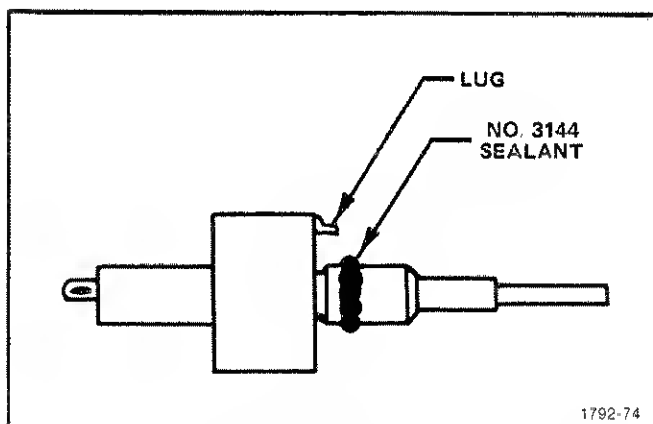

Fig. 5-21. Application of sealant to ZERO REFERENCE control bushing.
20. Install the ZERO REFERENCE control in the Front Panel (see Figs. 5-21 and 5-22)
1. Form a bead of No. 3144 sealant around the threads of the bushing as shown in Fig. 5-21.